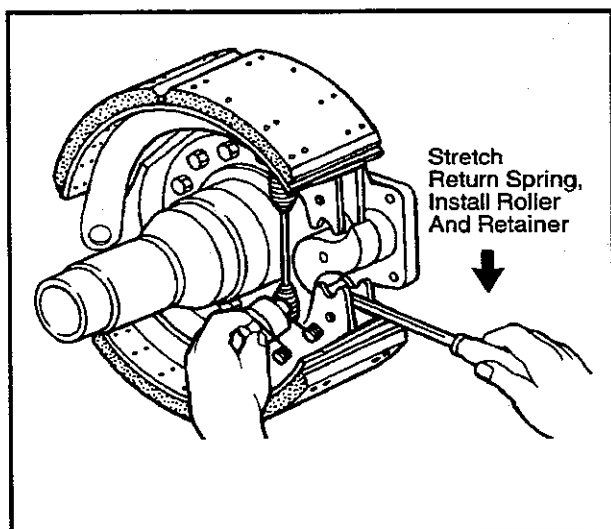

Figure 10—Insert Pin and Roller
18. Stretch shoe return spring to allow for insertion of new pin and roller on lower shoe web, repeat for upper shoe. (See Figure 10—Insert Pin and Roller.)